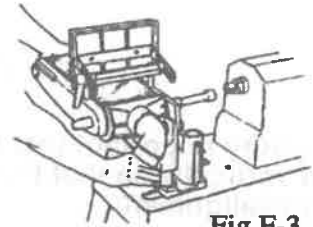

Fig.F-3
6. Unlock the carriage (21) by turning the handle (19) to the left. With your hands placed on the carriage and Belt Sander, slide the carriage and Belt Sander toward the Power Station's drive shaft hub (31) until the coupler almost touches the hub. See Fig.F-3.